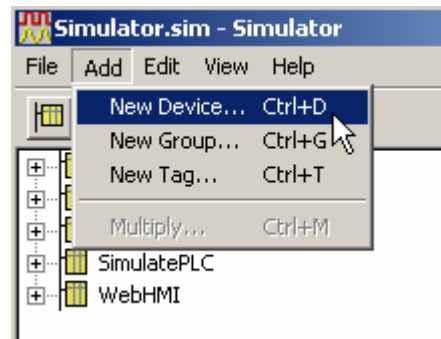

Figure 4.2. Creating a New Device
1. From the **Add** menu, select **New Device**, as shown in **Figure 4.2**.